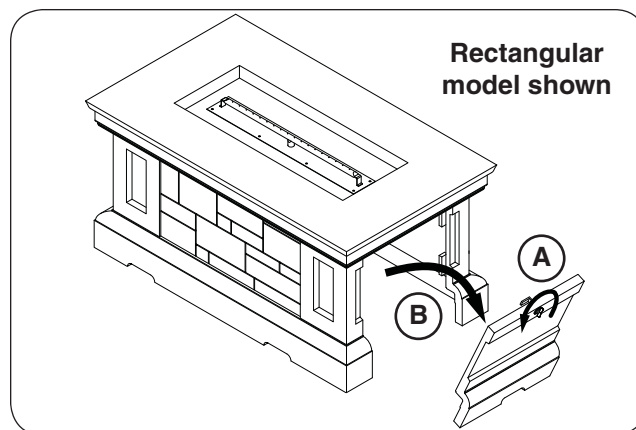
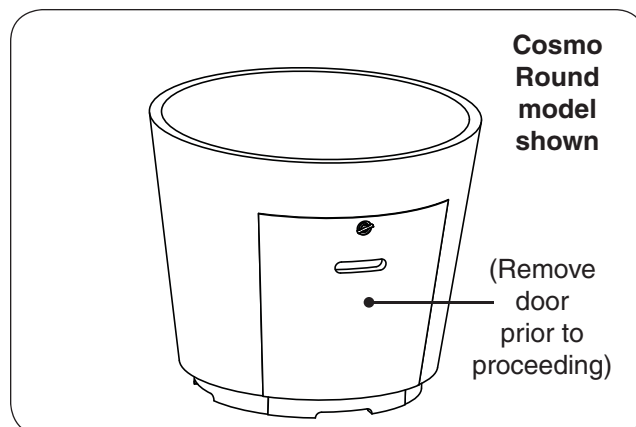

Fig. 16-1 Storage door removal
Fig. 16-2 Two-piece models: place base
Note: The rectangular (650) firetable is equipped with a storage door on one side. Remove the door by first turning the door handle counter-clockwise, then carefully pulling the door outward (see Fig. 16-1).
1. **CAREFULLY** place the base in an appropriate location (see Fig. 16-2, and refer back to the LOCATION section if needed).
2. Remove the storage door by first turning the door handle counter-clockwise, then carefully pulling the door outward (see Fig. 16-2 / reference Fig. 16-1). Store in a safe location.